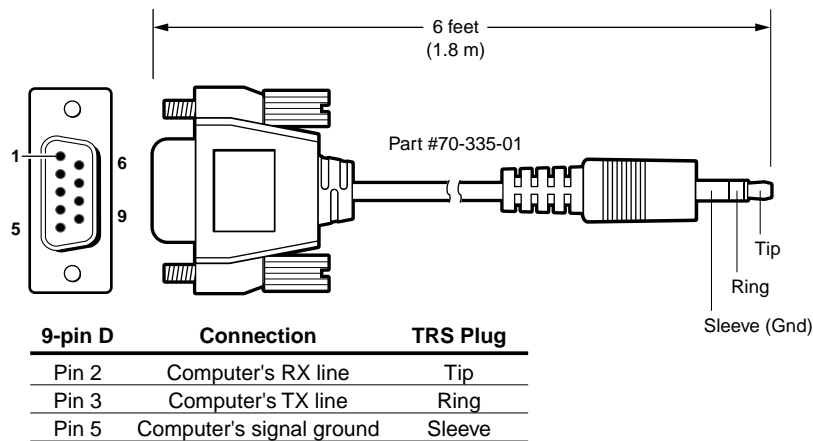

Figure 2-10 — Optional 9-pin TRS RS-232 cable
- ① **Configuration port** — This 2.5 mm mini stereo jack serves the same serial communications function as the rear panel Remote port, but it is easier to access than the rear port after the matrix switcher has been installed and cabled. The optional 9-pin D to 2.5 mm stereo mini TRS RS-232 cable, part #70-335-01 (figure 2-10) can be used for this connection.